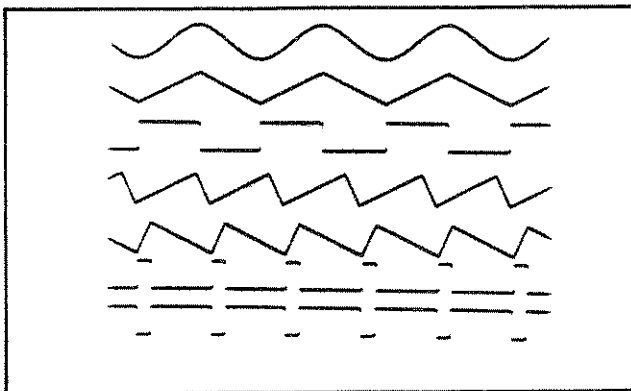

Fig. 1-2. Output waveforms available from the FG 501.
2. Set the FUNCTION selector to the desired waveform (see Fig. 1-2).